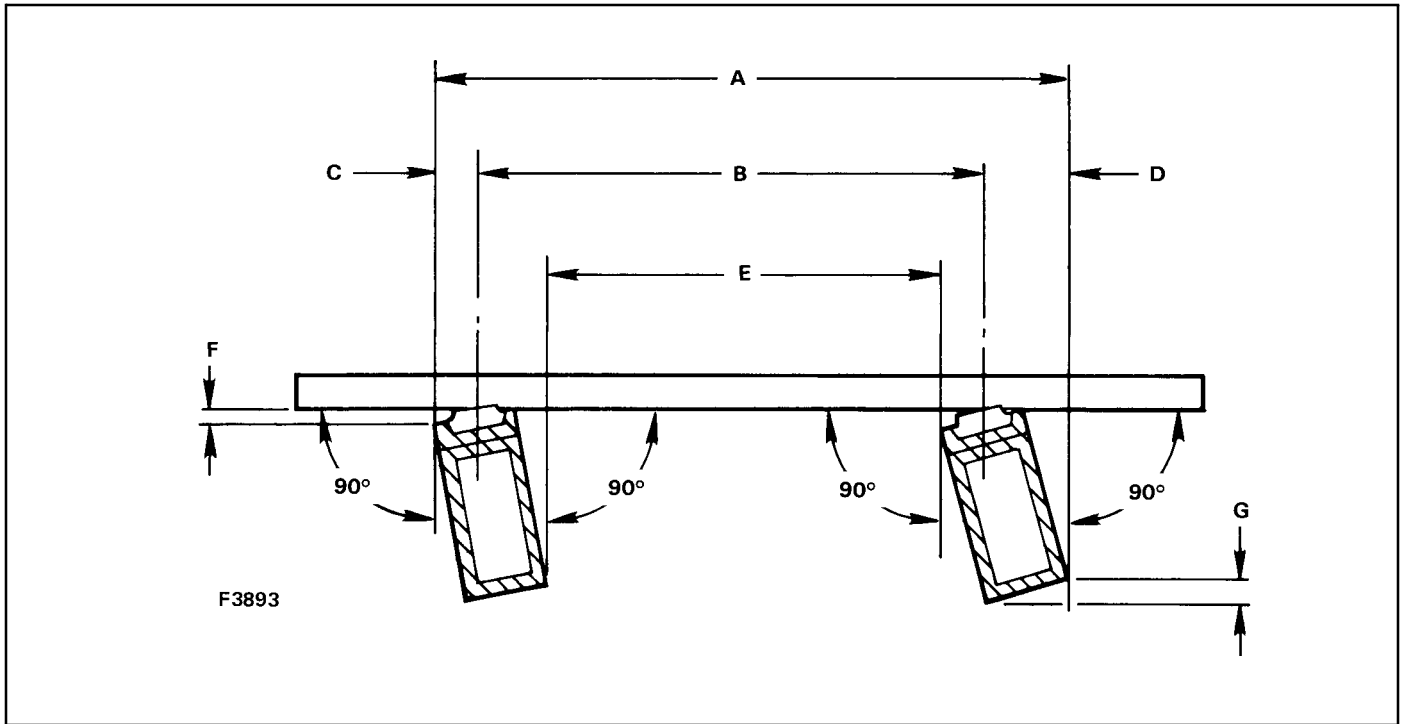
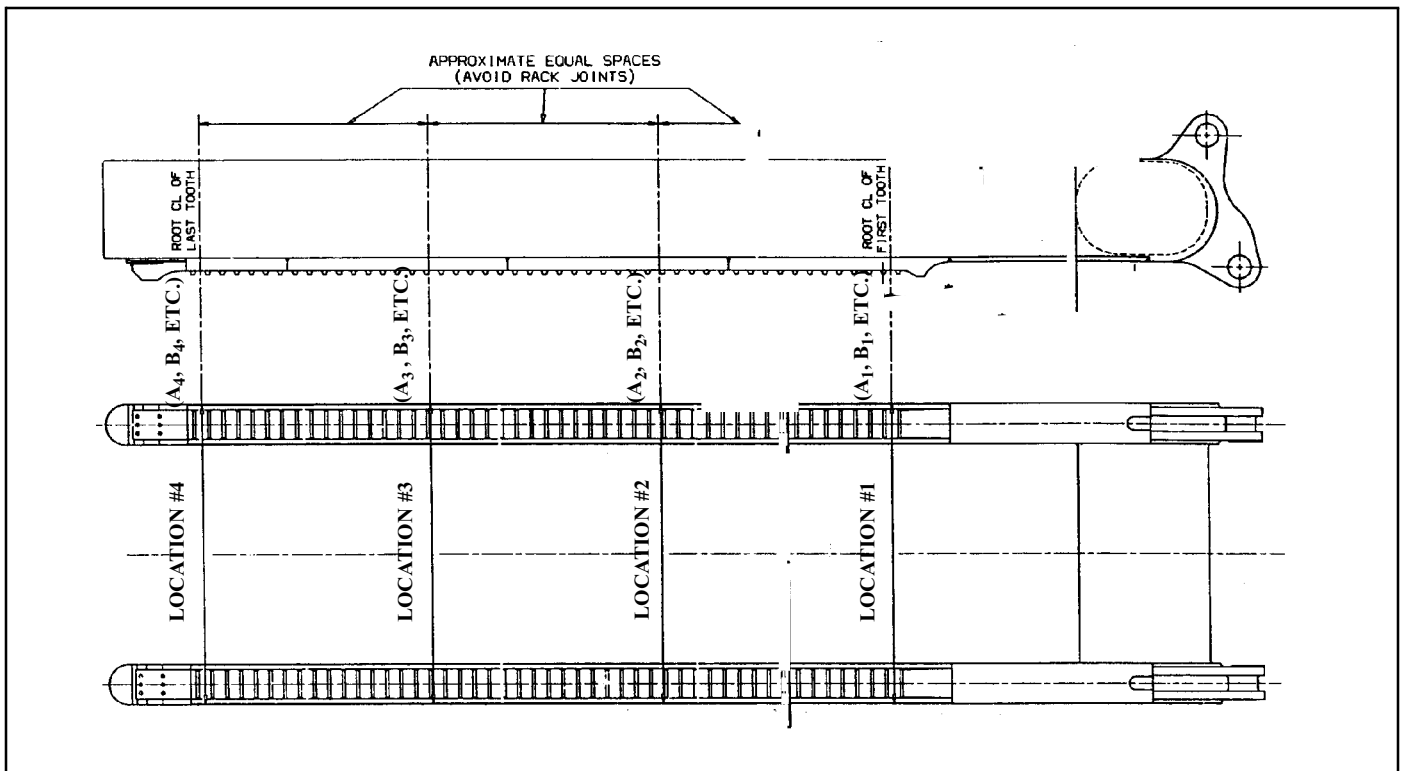

Figure 6-24. Handle Leg Spacing
Figure 6-25. Dimension Locations (R2254)
3. The spacing between the handle legs (see Figure 6-24).
6. Measure using a straight edge and square as shown on Figure 6-24 and Figure 6-25.
If the racks are not compatible, they can not be aligned on the handle as shown in Figure 6-25.
- Lateral dimensions from the centerline of the rack. See “B”, “C”, and “D” on Figure 6-24 and Figure 6-25.